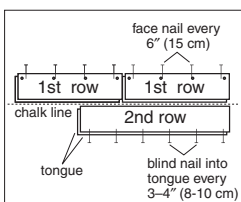

Figure 7
- Use the longest, straightest boards available for the first two rows. For random and alternate width products, use the widest plank for the first row. Align tongue of first row on chalk line. The groove should be facing the starting wall. Pre-drill 1/2" (13 mm) from back (groove) edge, 1"-2" (2.5-5 cm) from each end, and at 6" (15 cm) intervals when possible (Figure 7). Fasten using 4 or 6d finishing nails or 1" (2.5 cm) pneumatic finish nails/brads. Countersink the nails.